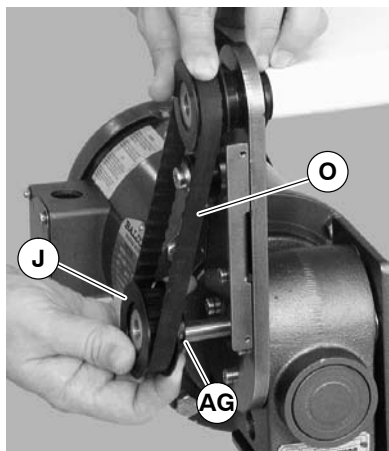

Figure 23
NOTE: If drive pulley (J of Figure 23) is replaced, wrap timing belt around drive pulley and complete step 3.
3. Loosen drive pulley set screws (AG of Figure 23). Remove drive pulley (J) and timing belt (O).
NOTE: Drive pulley (J of Figure 23) is removed. Wrap timing belt around drive pulley and complete step 16.